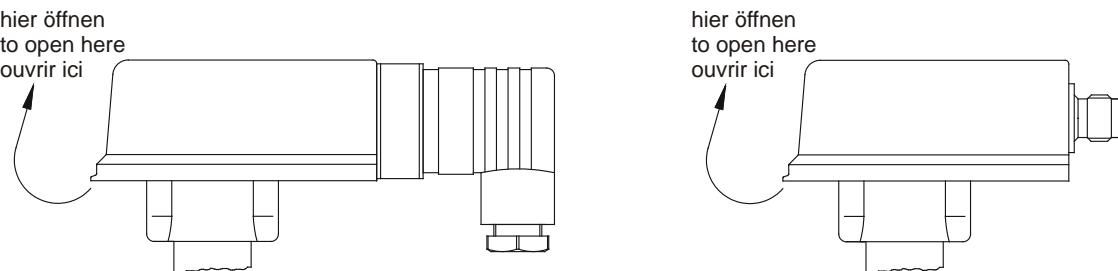

Fig. 17
- In order to adjust the switching unit, open the cover of the switching head ( $\rightarrow$  Fig. 17) (not required for VK3...)